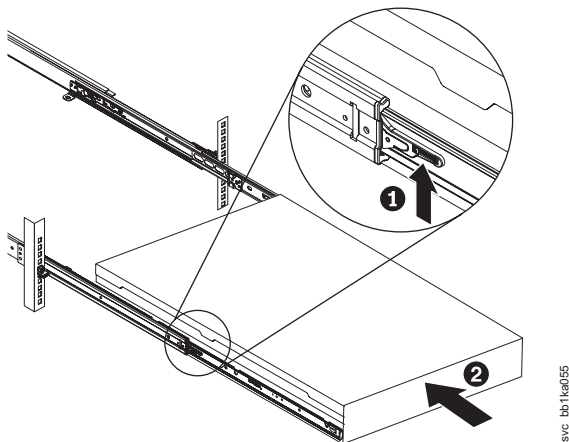

Figure 141. Raising the SAN Volume Controller 2145-CF8 or 2145-CG8 locking levers of the slide rails of the rack
9. Lift the locking levers ( **1** in Figure 141) on the slide rails and push the server **2** all the way into the rack until it clicks into place.